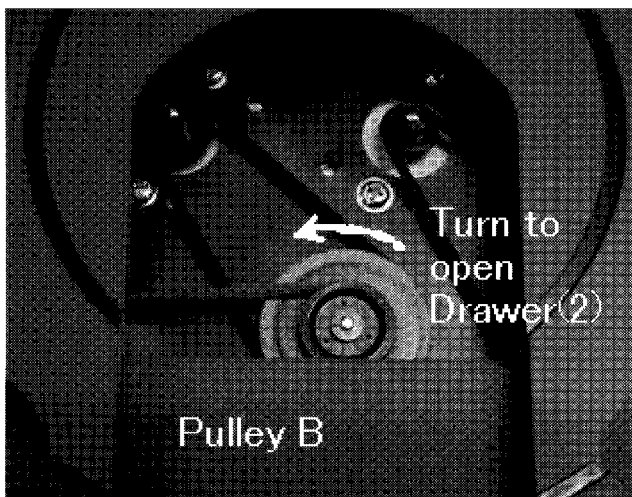
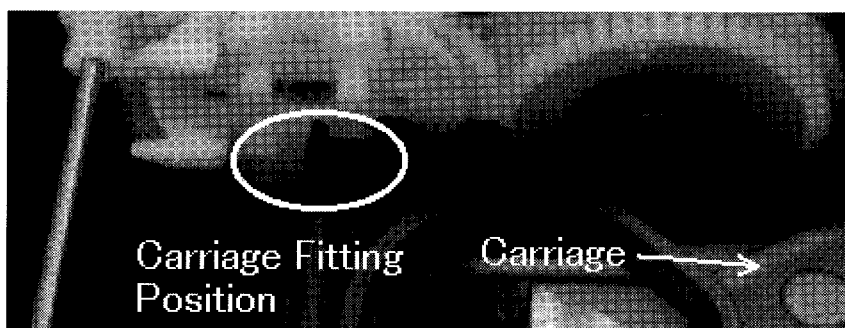
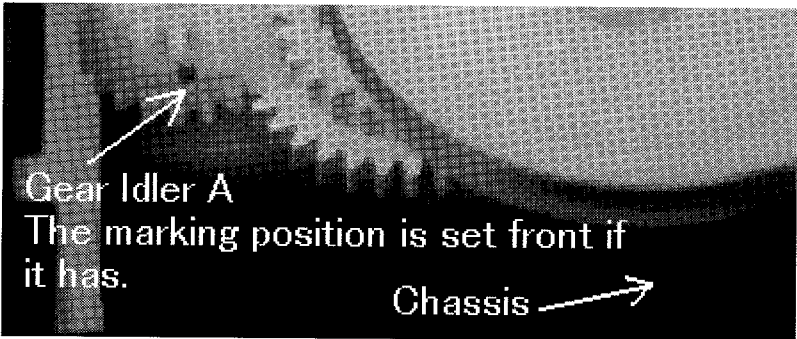
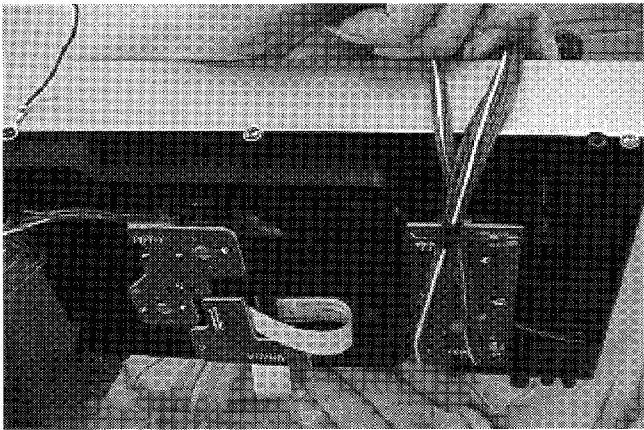

Fig.11
Fig.16
Fig. 18
Fig. 19
- 1) Remove 6 SCREWS(115) from COVER(23).
- 2) Turn PULLEY B(49)anti-clockwise and pull DRAWER(2) block. The DRAWER block is easily pulled out.(See Fig.11)
- 2) Then push in the left side of **CARRIAGE 20** on STAR GEAR C(20) and the rail part by warping the CARRIAGE. (See Fig. 16.)
- 3) Turn BEVEL GEAR 4 (8) clockwise to move **CARRIAGE 20** inside. After it reaches innermost, you cannot turn BEVEL GEAR.
- 5) Pulling up **CARRIAGE 20** horizontally, turn BEVEL GEAR 4 more clockwise. Then, **CARRIAGE 20** is installed and **CARRIAGE 10** moves inside by turning BEVEL GEAR 4(17) clockwise.
- 7) In assembly of the left side of CHASSIS, GEAR IDLER A(39) has a direction. (See Fig.18) Set it as its marking faced to the front. (If it doesn't have any marking, no need to take care of direction.)
- 10) When you assemble DRAWER block with CHASSIS, it is important that linear gears in CHASSIS gang well with GEAR IDLER A(39). While GEAR IDLER A isn't ganged well, turn PULLEY B(49) (Fig. 11) a bit and make them ganged. (Take care not to turn it much. GEAR IDLER A should be in +/- 45 degrees from the center.) (See Fig. 18)
- 11) Push in two hooks at the both sides as they sound click. (You may fix the right side hooks first before you move Drawer block inside in item 9).
- 12) Put COVER(23) and mount six SCREWS(115).
- 13) This is a completed or removed condition. (See Fig. 19.)